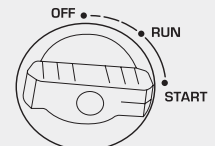

Fig. 2
- 12 To start KS 2100iG S, KS 3100iG S models, turn the Multifunctional engine switch to the „START“ position (fig. 2). Pull the handle of manual starter until a slight resistance is felt, then pull it relatively sharply. Slowly return the handle manual starter by hand, do not release it abruptly. Turn the Multifunctional engine switch to the „RUN“ position (fig. 2).